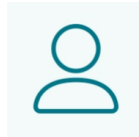

Figure 134. User Menu
1. Open the main menu by clicking the top left icon. See **Figure 134**.